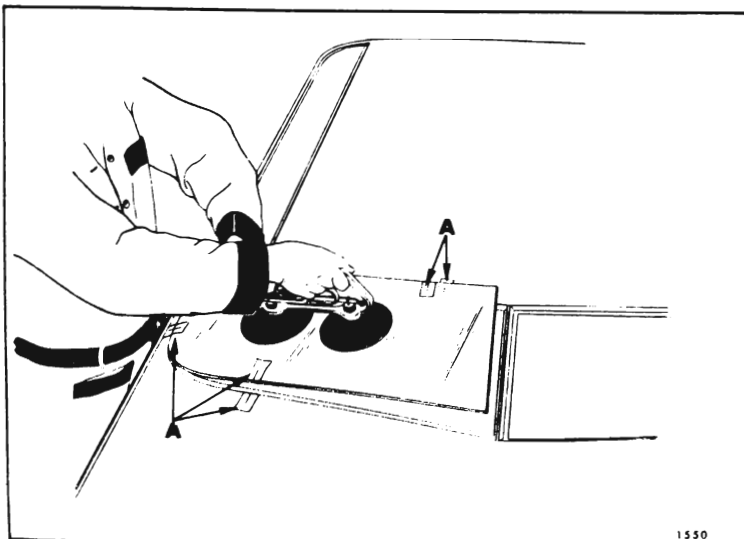

Fig. 5-8—Glass Suction Cup Usage
4. If the front skylight is being installed, attach glass handling suction cups to outer surface of glass and position glass in body opening (See Fig. 5-8).
7. After final adjustments have been made and glass is in proper position, apply pieces of masking tape over edges of glass and body (see View "A" in Fig. 5-8 or 5-10, depending
NOTE: When installing front skylight, position outer lower corner first as shown in Figure 5-8, and lower glass into opening.